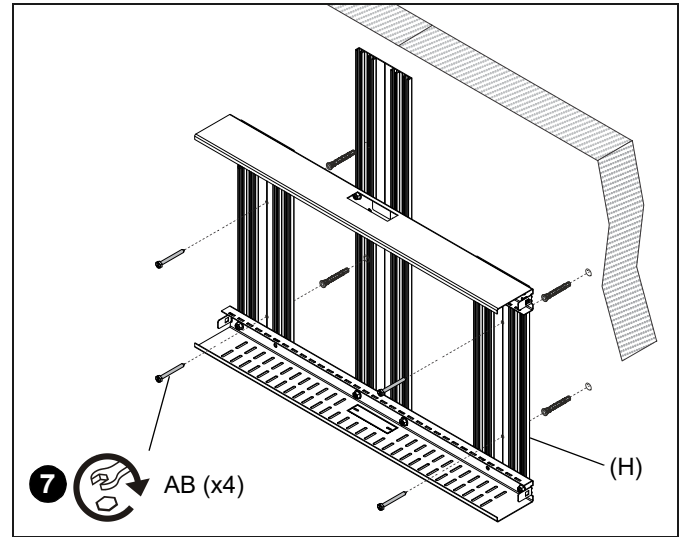

Figure 15
- Use a hammer to install four concrete anchors (AA) into drilled pilot holes. (See Figure 15)
- Replace the storage box (H) on the wall and position the holes in the extrusions over the anchors in the wall. Install using four lag screws (AB). (See Figure 15)